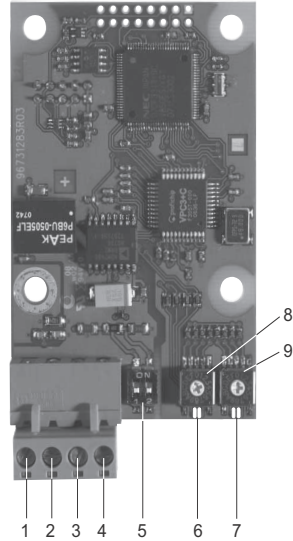

Fig. 1 CIM 1XX Profibus module
The power supply (pos. 4, fig. 1) must only be used for external termination.
See fig. 1.